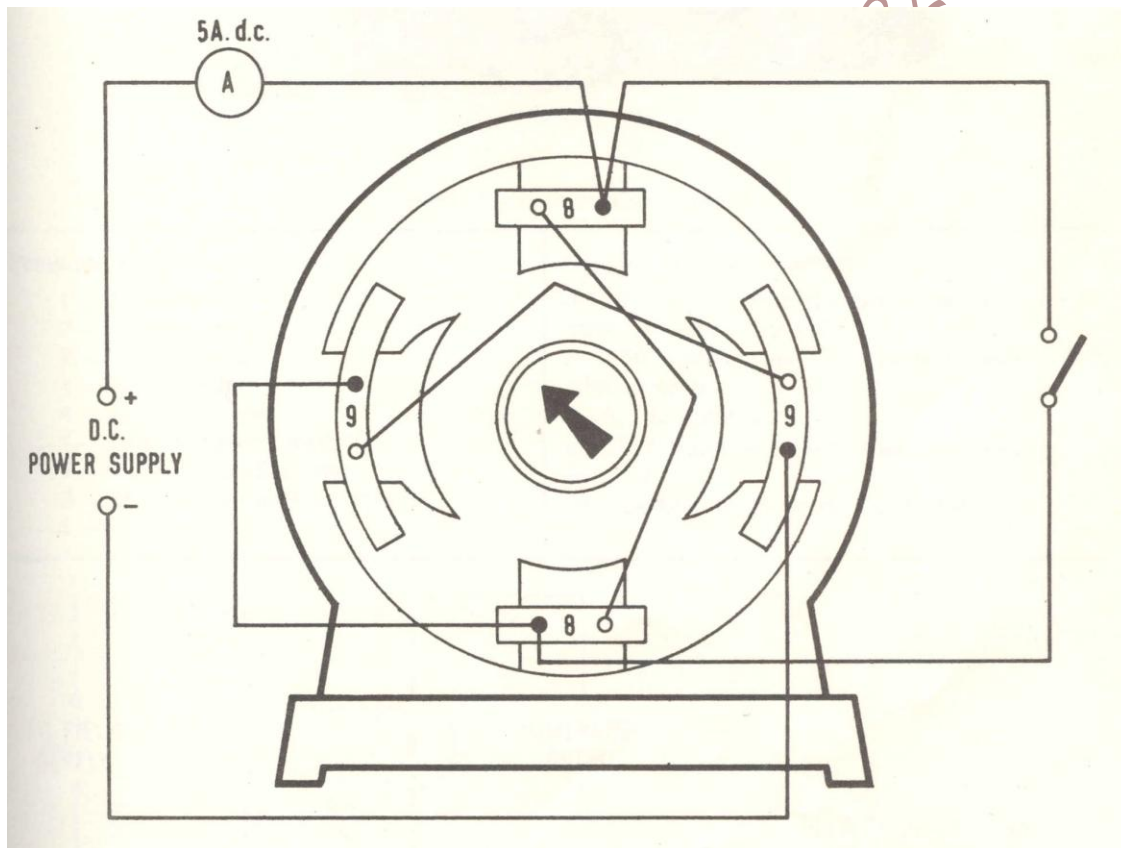

Figure 2
1. Make the connections as shown in Figure 2